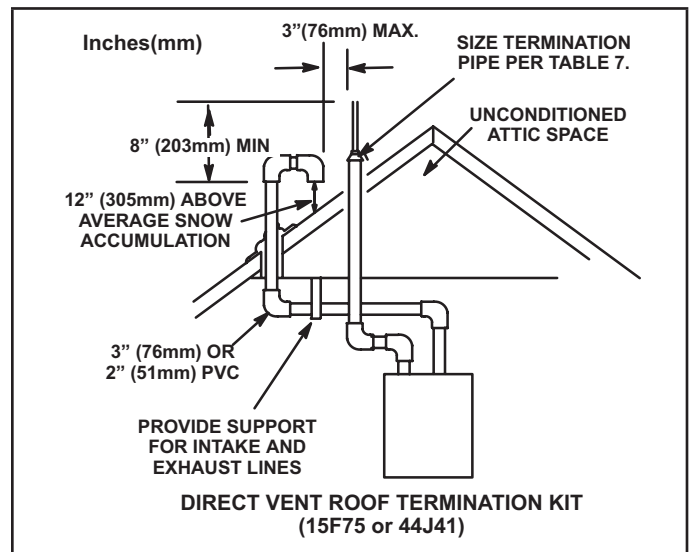
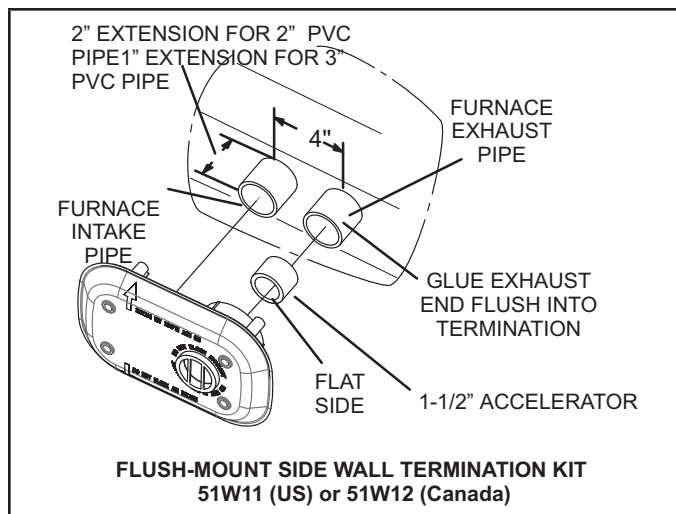

FIGURE 28
FIGURE 33
Intake and exhaust pipes may be routed either horizontally through an outside wall or vertically through the roof. In attic or closet installations, vertical termination through the roof is preferred. FIGURE 28 through FIGURE 33 shows typical terminations.
- 3 - On roof terminations, the intake piping should terminate straight down using two 90° elbows (See FIGURE 28).